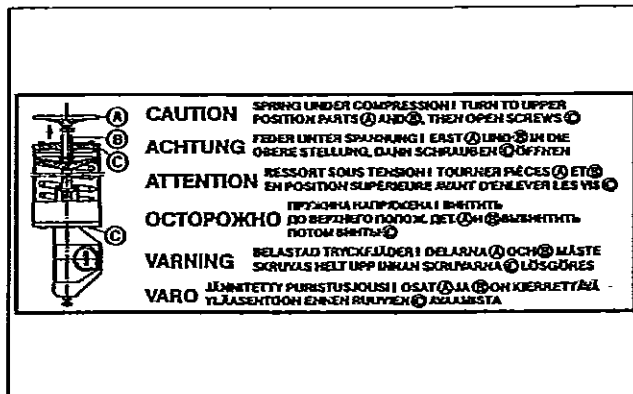

Fig. 21. BJR actuator warning plate
The cylinder has a warning plate (43), see fig 21. When servicing the unit, check that the plate is in place and legible. Also check that the cylinder has the arrow sticker indicating the spring operating direction.